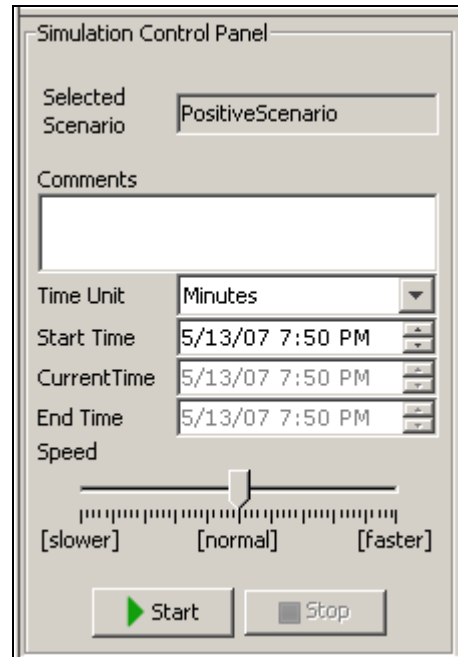

Figure 53: Simulation Control Panel
1. In the Process Simulator applet, double-click the required scenario from the *scenarios* tree in the simulation entities panel. The selected scenario is shown in the **Selected Scenario** field in the **Simulation Control** panel (see Figure 53).